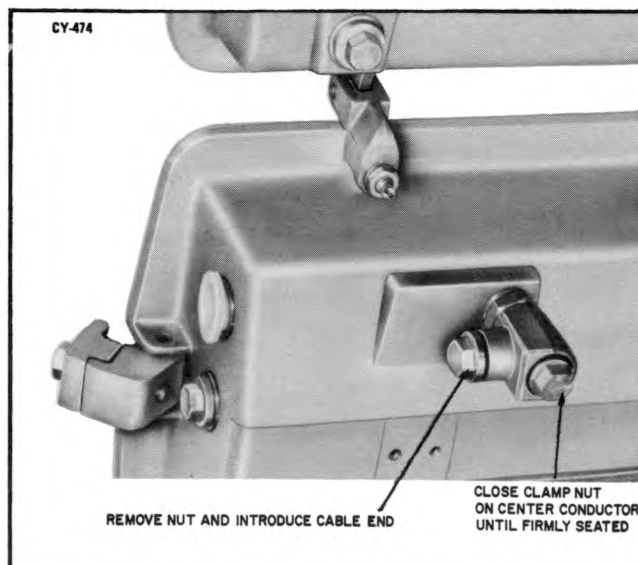

Fig. 4—Model AK-7 Mounted on Housing Bottom
- 8.0** A Model AK-7 adapter fitting kit is available for equipping housings with a seventh port where two housings are to be interconnected to establish a dual trunk cross-over station; see Fig. 4.